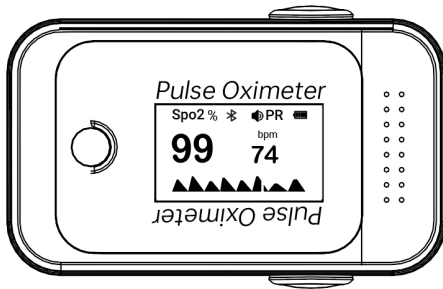

Figure 7
- Once the data has been displayed on the screen, press the "POWER/FUNCTION" button once again to rotate the display orientation (as shown in **Figure 7**).